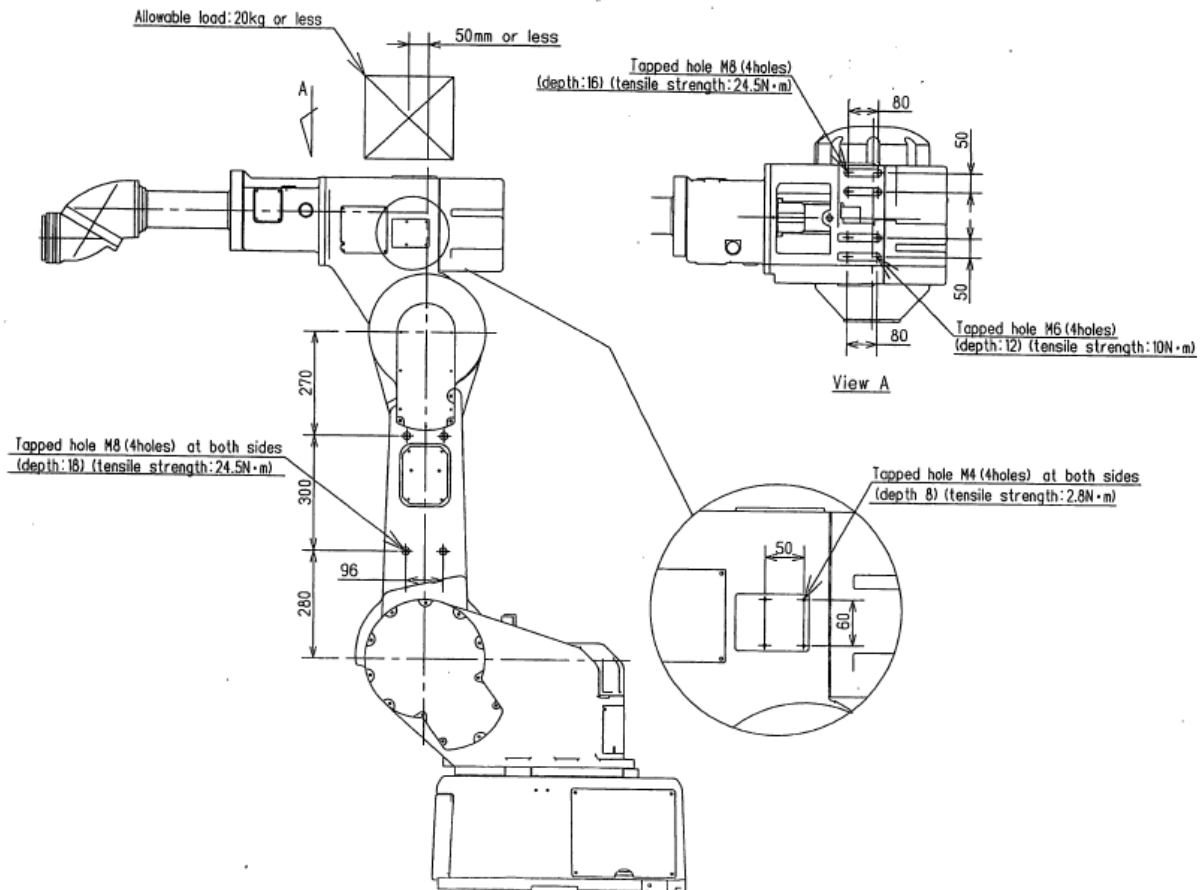

Fig. 7-2 Device Mounting Position
- Mounting Position: Refer to Fig. 7-2 "Device Mounting Position"